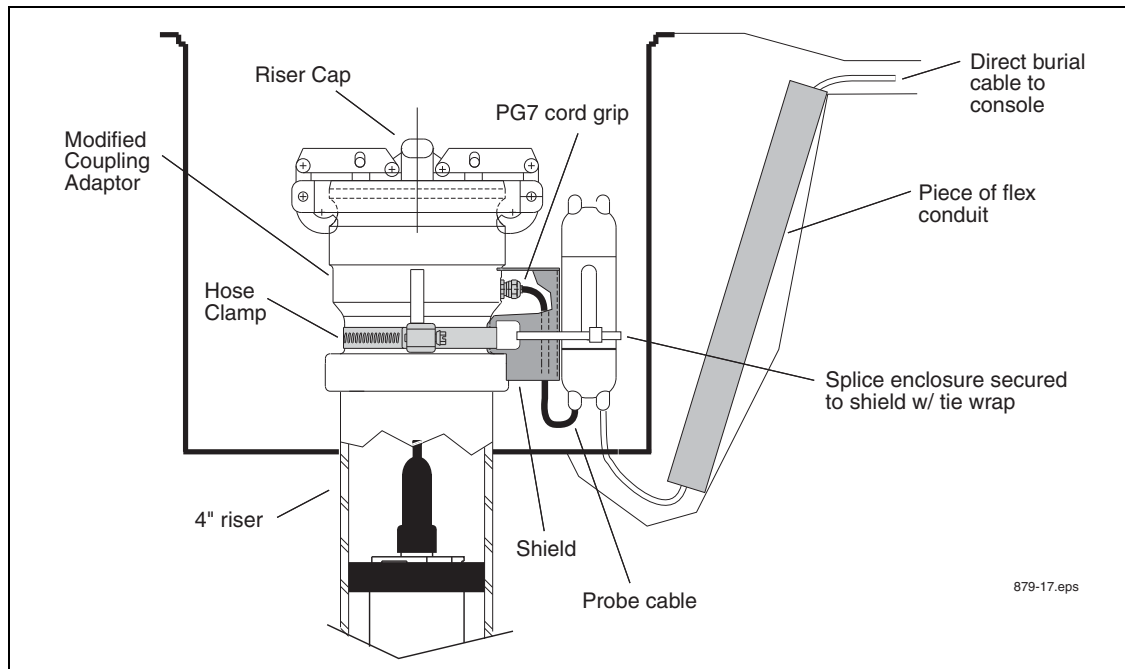

Figure 16. Mag probe vapor extractor riser installation - w/ coupling adaptor
12. Position the Shield-Fitting over the PG7 cord grip and secure with the hose clamp (see Figure 16 on page 24).